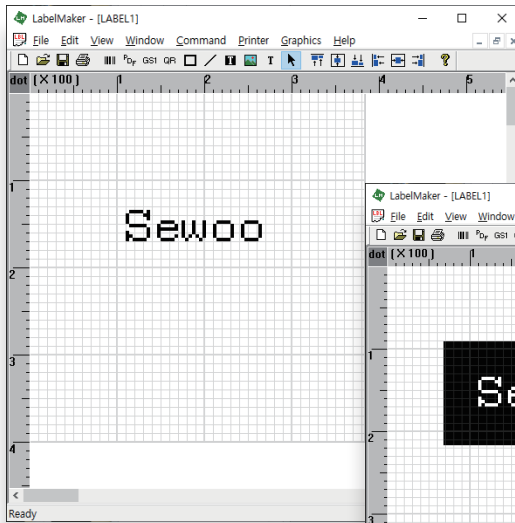

Figure 1
- 01 Enter text from the Text menu. (Figure 1)